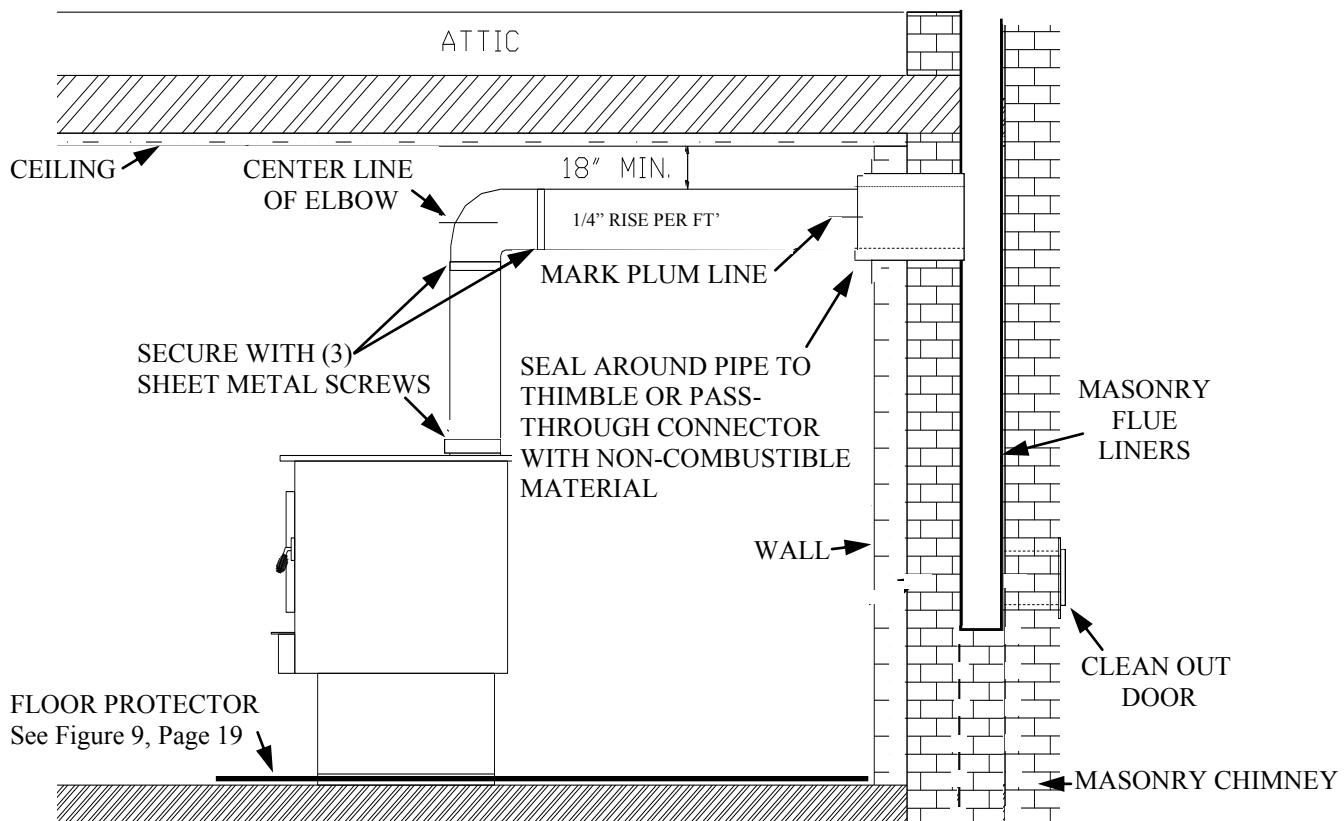

Figure 16
- Before connecting these units to a masonry chimney, determine that masonry flue pass-through connector thimble meets NFPA-211 Code and local building codes and is a minimum of 18" from ceiling. If connector thimble does not meet these codes, the pass-through connector must be modified. (See Figure 16)